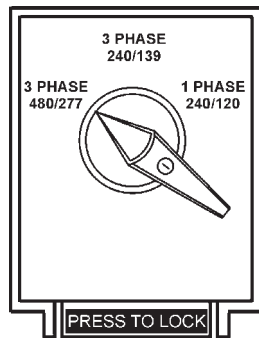

Figure 24. Voltage Selector Switch 480/277V Three-Phase Position
1. Place the voltage selector switch in the 3Ø 480/277V position as shown in Figure 24.